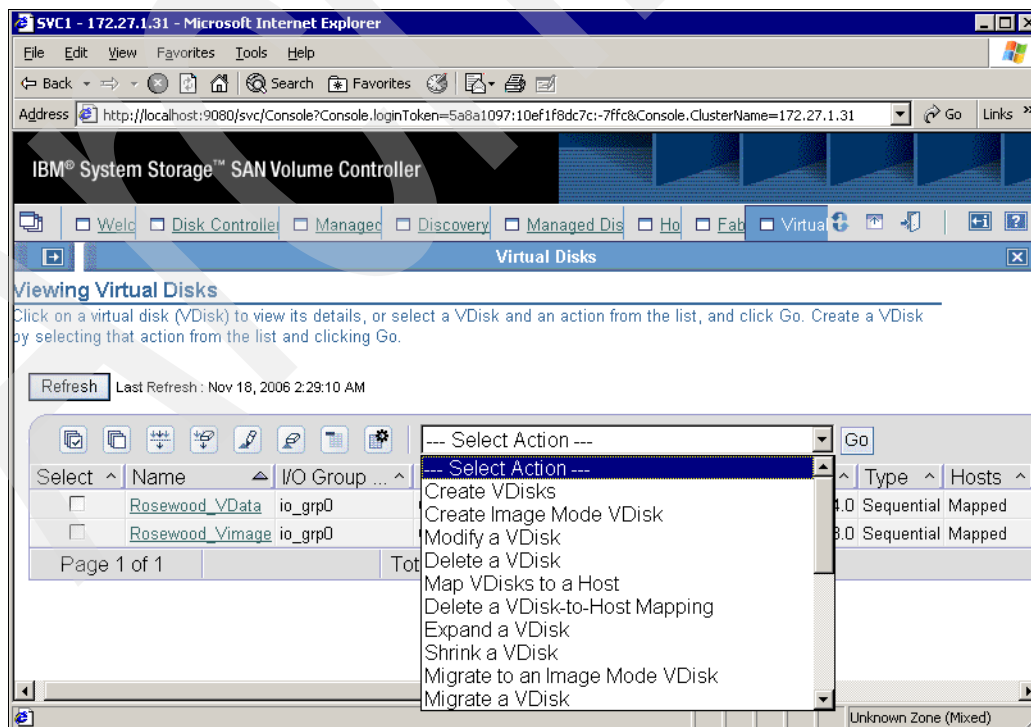

Figure 11-27 Working with virtual disks
- Use the MDisk to create VDisks that will be presented to the host, which can be done by selecting **Working with Virtual Disk** → **Virtual Disks** from the SVC Welcome window. From the drop-down menu, select **Create VDisk** (Figure 11-27).